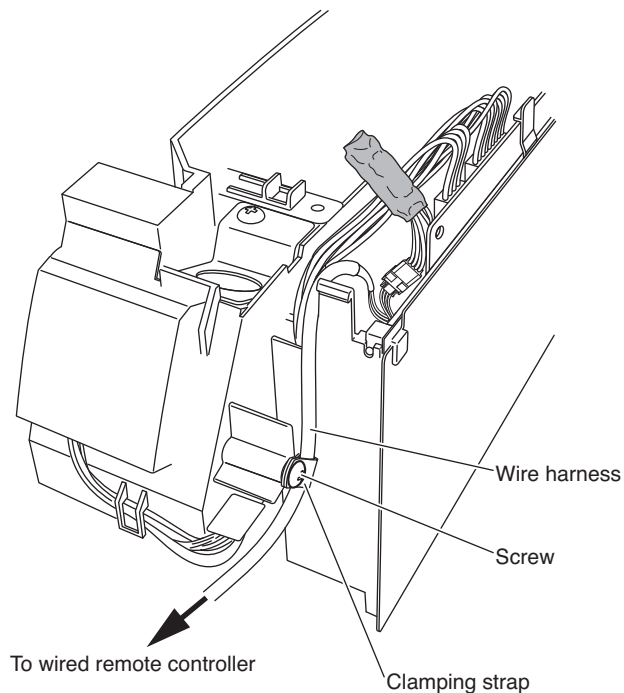

Fig. 6
- (6) Insert the PCB back into its original location in the electrical box.
- (7) Reconnect the three connectors that were removed in step (3).
- (8) Pass the wire harness from the wired remote controller through the clamping strap, and tighten the clamping strap screw. (Fig. 6)